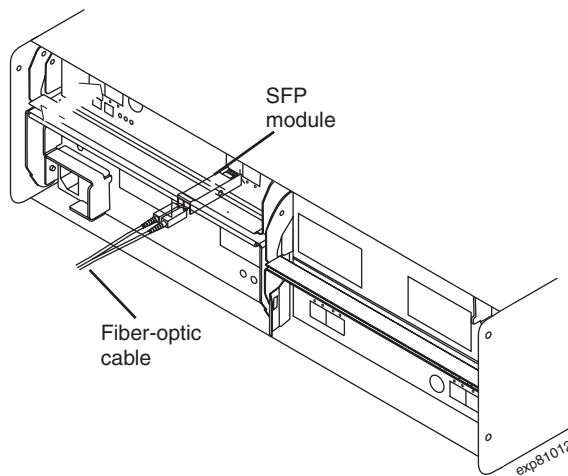

Figure 27. Installing an SFP module and connecting an LC-LC cable to the EXP520
3. Install an SFP module in the SFP port on the back of the EXP520; then, connect the other end of the LC-LC cable into the SFP module, as shown in Figure 27.